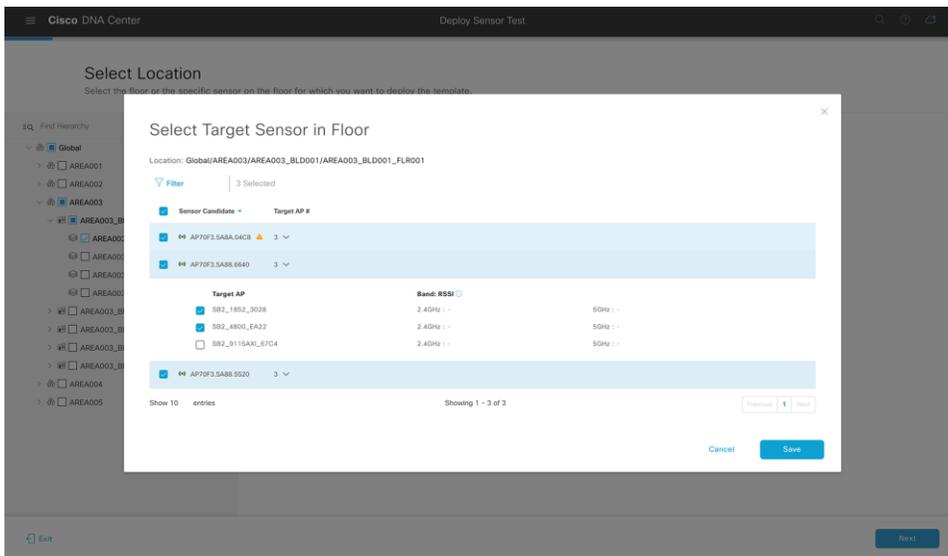

Figure 86.
21. Optional – Select target APs: Expand the Target AP # column in each row to reveal the APs assigned to the same floor as each of the sensors. Selecting the check box next to the AP under each sensor will allow you to specify which AP each sensor will target during the test cycle. If none is selected, the sensor will test the number of APs configured within the test template using the RSSI threshold (**Figure 86**).
22. Click **Save** and then **Next** to continue the workflow process (**Figure 86**).